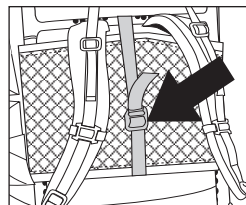

Figure 2G
- a. Reach behind the mesh panel from the bottom and generously loosen the black vertical strap behind the backpanel (Figure 2G).